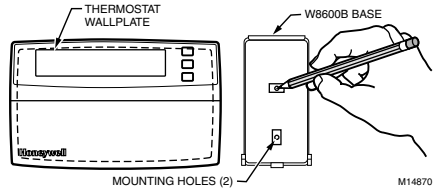

Fig. 3. Using base as mounting template.
2. Position the base on the wall in the desired mounting position. Using the holes in the base as a template, mark the locations for the anchors and screws provided. See Fig. 3.